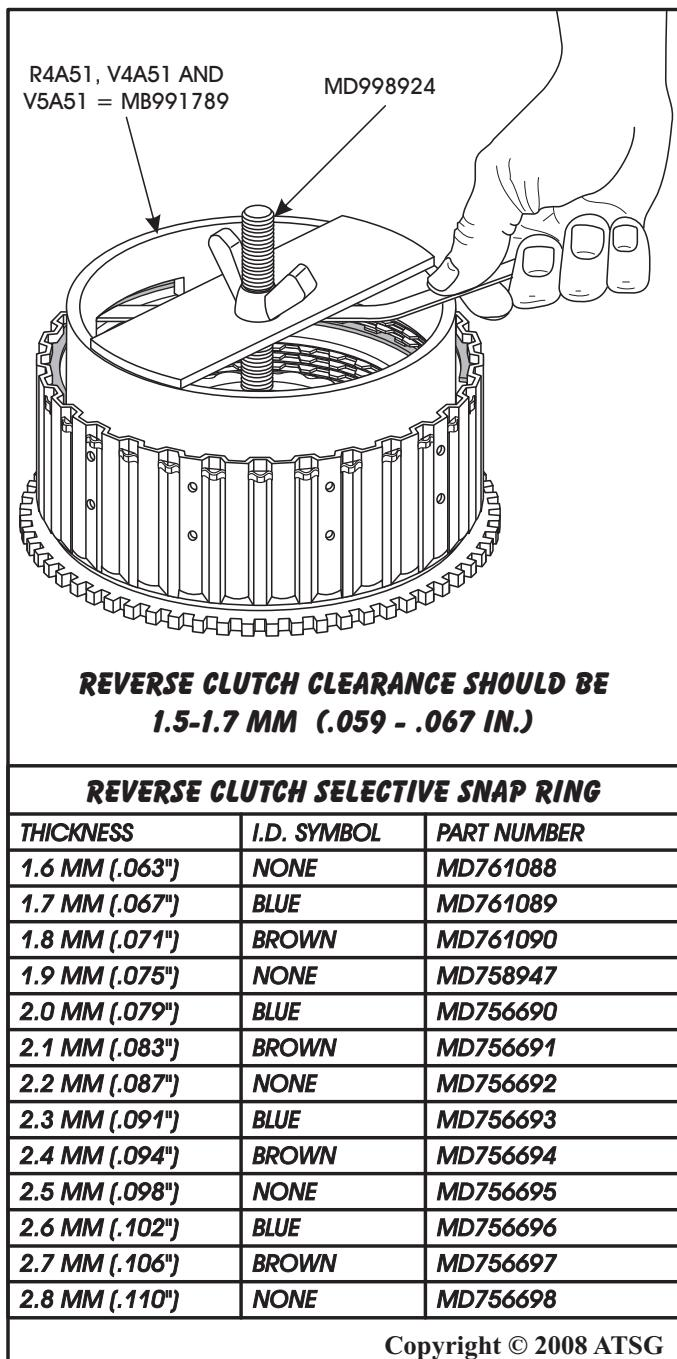

Figure 99
26. Install clutch pack compression tools, as shown in Figure 99.
Note: Reverse clutch plates are "Waved" on all models and must be compressed as shown in Figure 99, to accurately measure for the proper selective snap ring.
27. Compress the plates and measure with feeler gauge between snap ring and backing plate, as shown in Figure 99.
29. Change selective snap ring as necessary, using the chart in Figure 99, and remove tool.